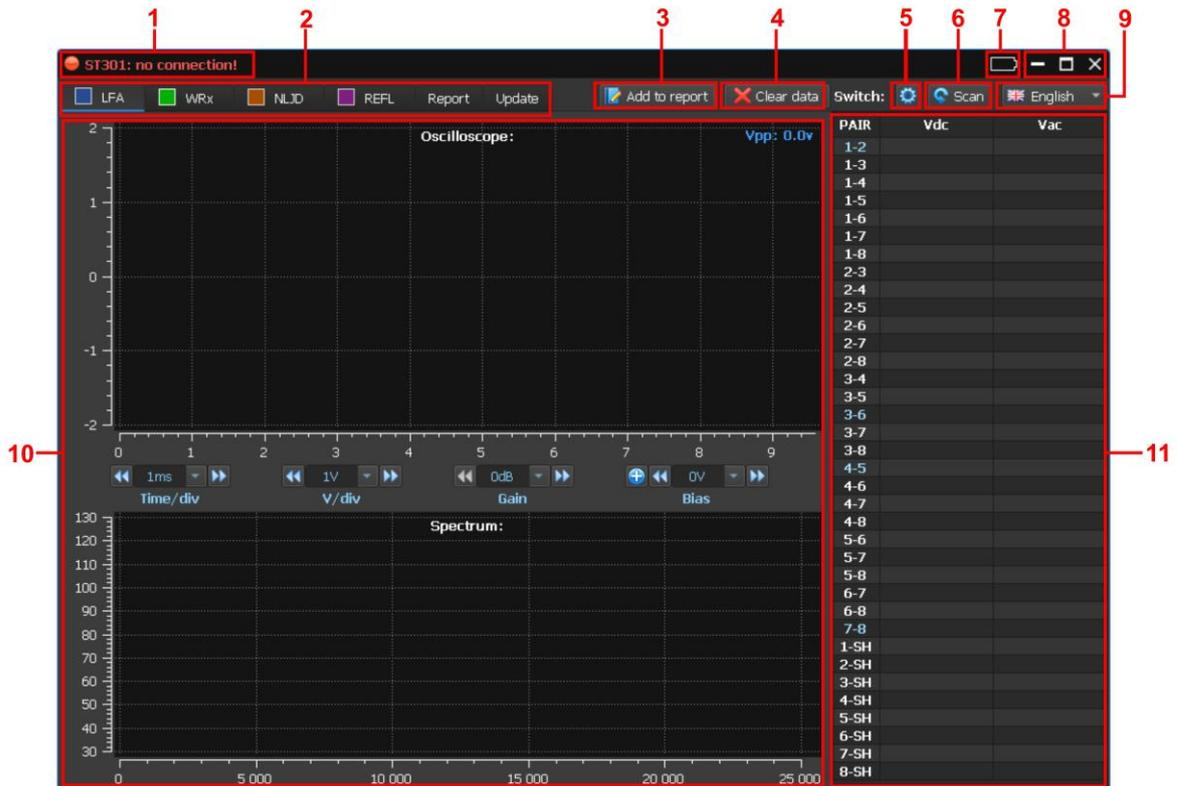

Fig.61
3. Run the ST301.exe file. The PC screen is shown in Fig.61. The message on the indicator (Fig.61, item 1) will display: "ST301: no connection! " in red color.
5. Turn on the main unit. The message "ST301: connected" should appear on the indicator (Fig.61, item 1) and on the ST 301 screen.
After the start of the software, the splash screen is displayed on the main unit screen (Fig.20). It does not have an indicator of accumulator charge level. For this purpose, the indicator on the PC screen is used (Fig.61, item 7).
In Fig.61:
To the Switch setup, click  (Fig.61, item 5). The setup window will appear on the screen.
When the Switch setup is finished click  (Fig.61, item 5).
In the window (Fig. 61, item 11) displays the contacts configuration.
To turning on the AUTOMATED mode, click  (Fig. 61, item 6). When scanning, the measured values of direct and alternating voltage are displayed in the Switch window, (Fig. 61, item 10). On each pair, the Analyzer pauses for a few seconds so that the operator can evaluate the received signal. Signal analysis is performed using an oscillogram, a spectrogram (on a PC screen) and acoustic information (via a built-in speaker or headphones).
Manual mode is used to analyze signals in a specific combination of wires. To connect it, click on the corresponding row of the Switch table (Fig. 61, item 10), which will be highlighted in blue.